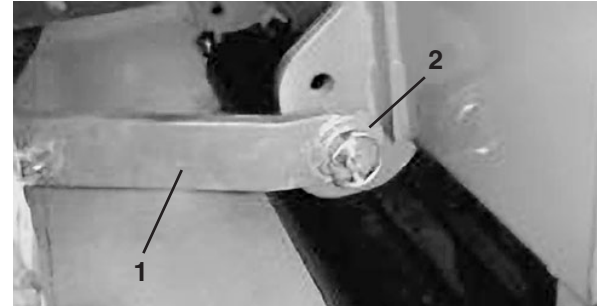

Figure 1
hitch pins (Fig. 1).
6. Secure the lower link arms to the hitch pins with lynch pins (Fig. 1)